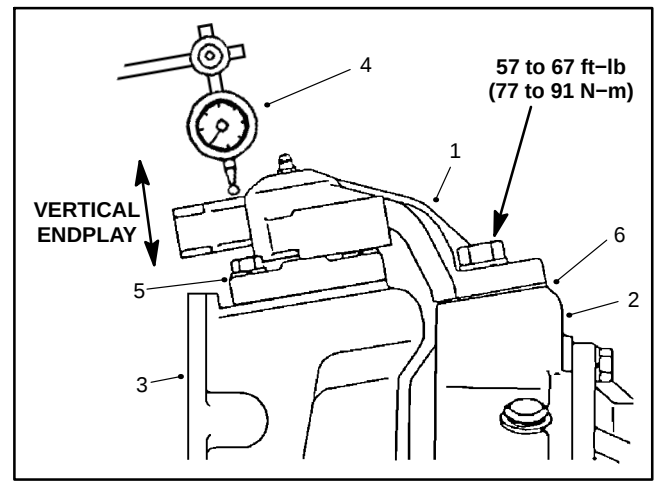

Figure 70
C. Use dial indicator to measure vertical endplay of axle case (Fig. 70).